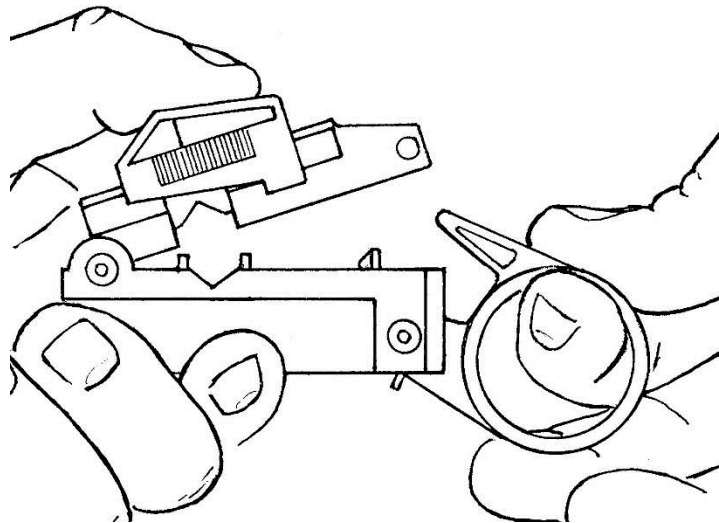

Figure 16
1. Open the tool by rotating locking latch downward as shown in Figure 16.